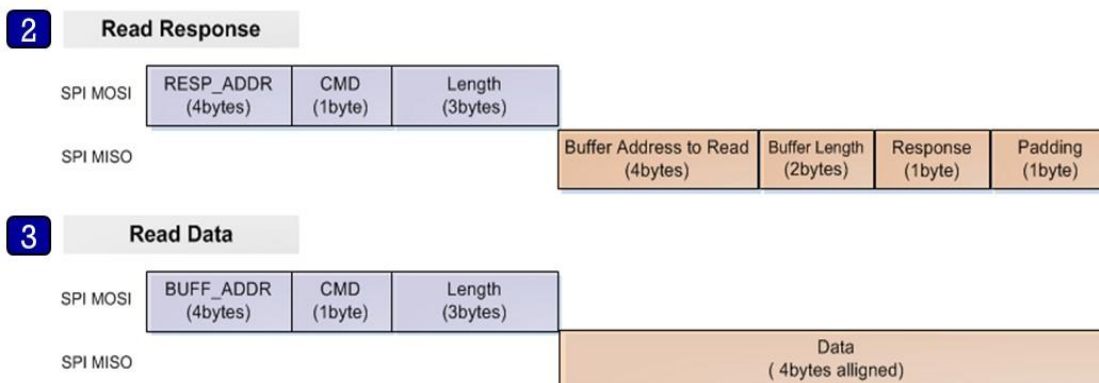

Figure 5: Structure for Read Operation
2. The Host reads the response message from Response Command address (0x50080258, blue rectangle in Figure 5) and parses it using `struct _st_host_response` (see 3.2.6).
3. The Host reads data from address (BUFF_ADDR) which is received from Slave in the response message (green rectangle in Figure 5).